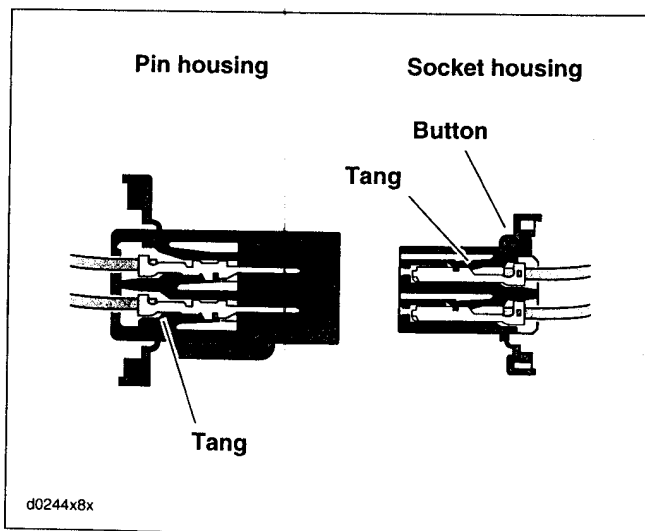

Figure B-3. Deutsch Connector Pick Tool
- See Figure B-3. The tang in the chamber engages the slot to lock the terminal in position.